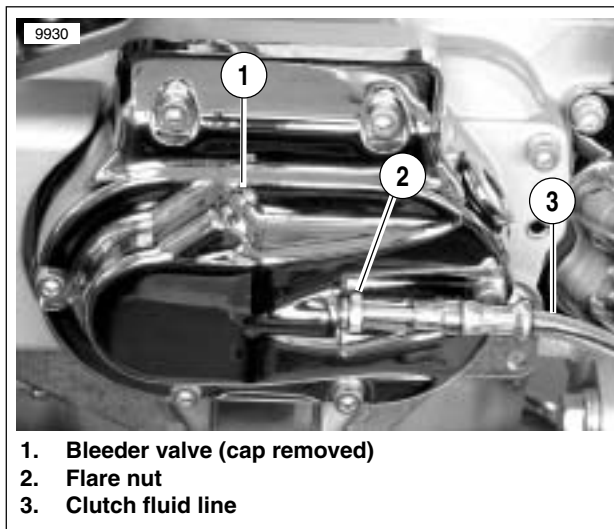

Figure 7-1. Clutch Release Cover (exhaust system removed)
6. See Figure 7-1. Place a suitable container under clutch release cover. Remove cap and open bleeder valve and loosen flare nut and allow clutch fluid to drain.